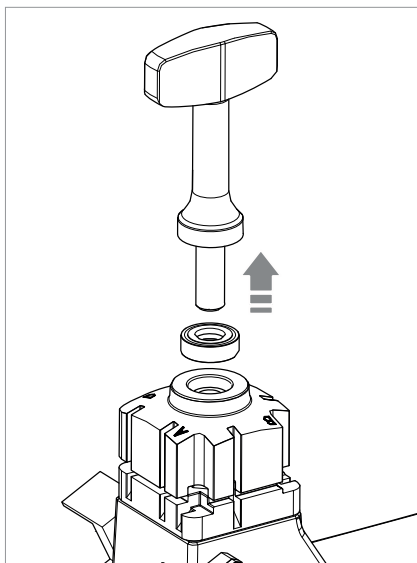

Fig. 40
- 2) Unscrew the knob and remove it with its ball bearing (Fig. 40).